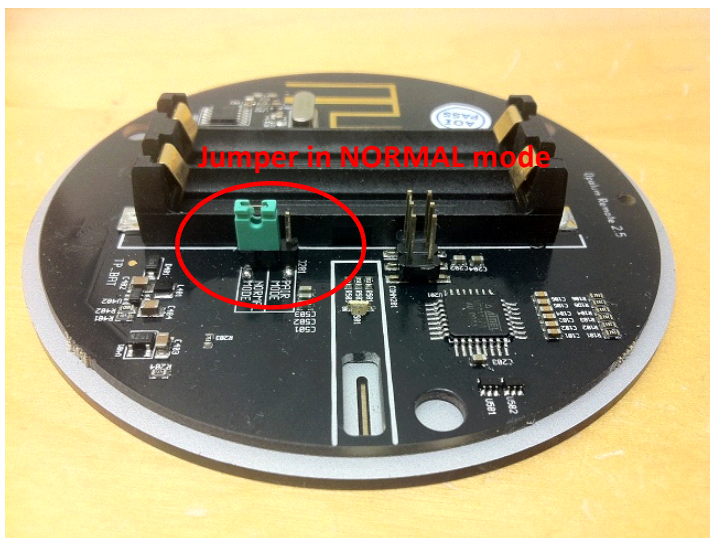

Fig 3: Jumper in normal operating position
- Step 4:** Next to the battery holder is a three pin connector with a jumper installed over two of the pins. Figure 3 shows the normal operating position of the jumper.